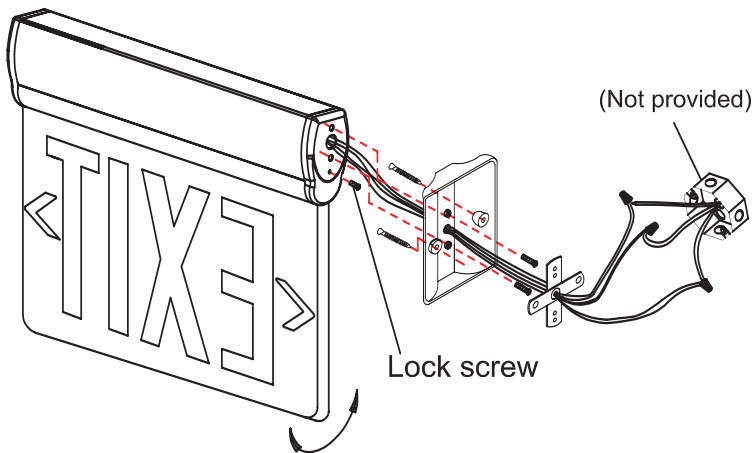

Fig.4 End Mounting
4. Assemble canopy on aluminum housing with (2) 10*-24 (UNC) screws and make proper lead connections. See "Electrical Connections" below.
5. Using (2) M4*40 screws supplied tighten canopy to mounting plate.
6. The unit may be installed on any surface and rotate EXIT panel in any angle from 0 degrees to 180 degrees, lock EXIT panel by mounting lock screw. (See Fig. 4)
Make the proper supply lead connections. If using 120VAC, connect the black and white leads to the building utility. If using 277VAC, connect the orange and white leads to the building utility. Cap off unused wires. In all cases, use standard wire nuts in connection to leads. (See Fig. 4)